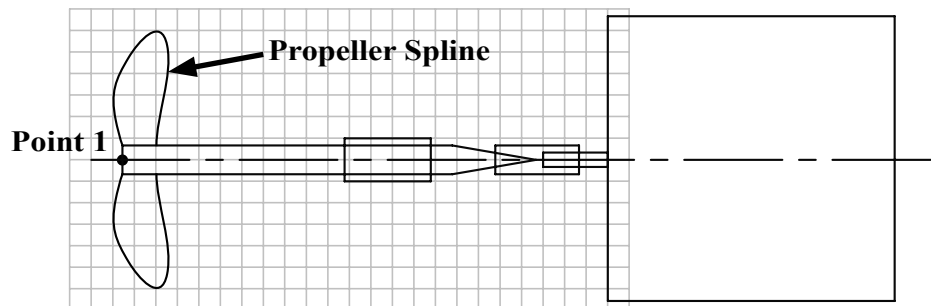

FIG. 9
Step 6. Select the propeller spline, **Fig. 9**, with a click and press ENTER.
Step 8. To indicate position on the plane, click the end of the prop shaft, Point 1, **Fig. 9**.